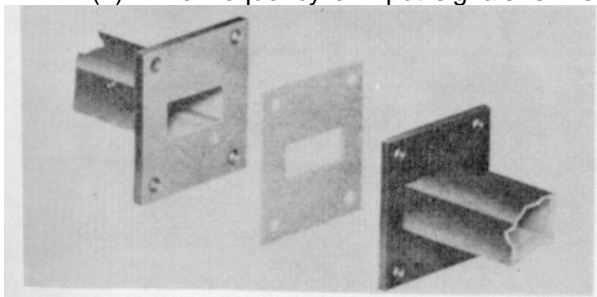
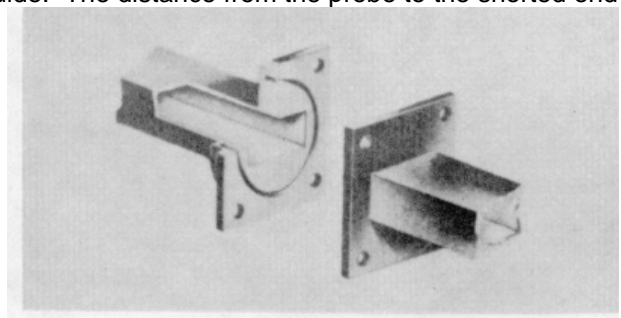

Figure 2-4. Gasket-Flange Joint
Figure 2-5. Choke-Flange Joint
(3) The RF plumbing connections are of the gasket and flange type (See figure 2-4.) and not the choke-flange type. (See figure 2-5.) The gasket is made of thin, silver plated brass and the joint is held together by four screws.